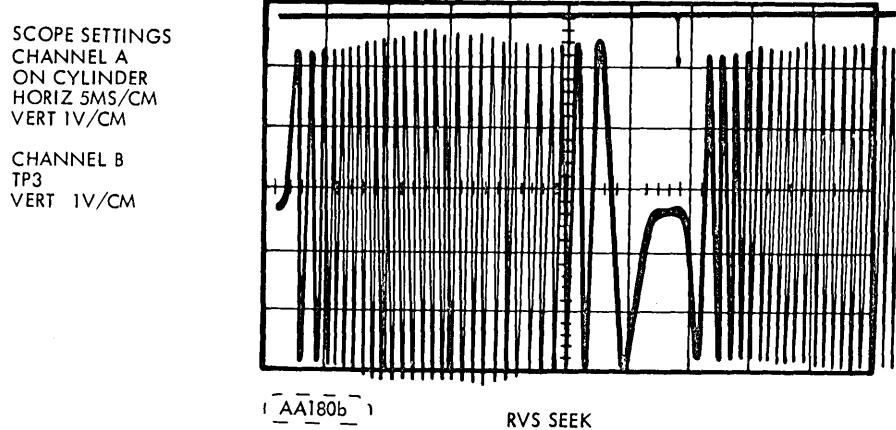

FIGURE LE 3-6. REVERSE SEEK
26. Monitor waveform at TP3. The peak to peak amplitude of the last full sinewave before "On Cylinder" goes negative must be 5 ± 5 volts (see Figure LE 3-6). If it is not, slow servo speed (R 73) until all overshoot is gone. Correct servo problem and readjust speed.